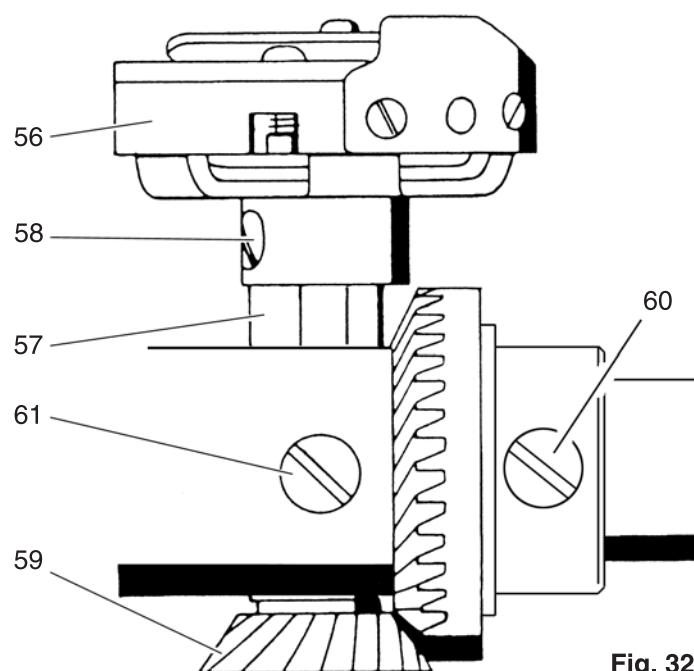

Fig. 32
- Check the axial play of hook 56 to hook shaft bush 57 (fig. 32).
- Push the bevel gear with the lifting eccentric to the left until it is in contact with bevel gear 59 and has no play (fig. 32).